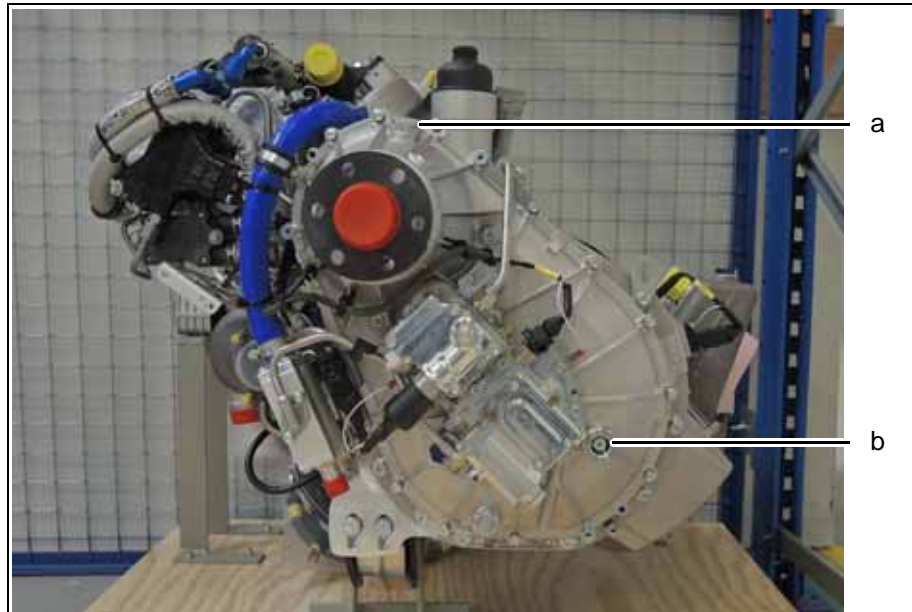

Fig. 6.22 Gearbox oil filler screw and inspection glass
- If oil needs to be refilled loosen the oil filler screw and remove it. See Fig. 6.22.